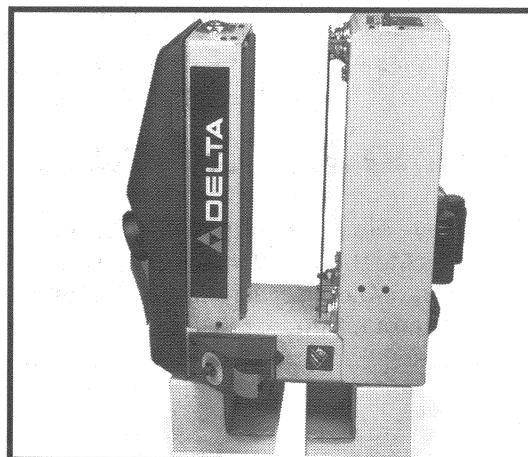
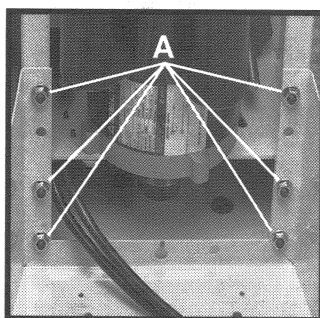
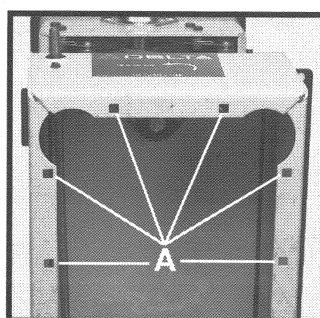

Fig. 1
Fig. 2A
Fig. 2B
1. With the machine on its back, resting on the two shipping blocks, attach the legs. (Fig. 1). **NOTE:** The legs are universal but the mounting hole pattern is different front to rear. See (A) Fig. 2A and Fig. 2B.
2. Attach the leg that goes under the motor first. Use six carriage head screws through the machine and the leg and secure with flange nuts (A) Fig. 2A. Attach the other leg to the machine using the remaining six carriage head screws and hex nuts. Tighten securely.